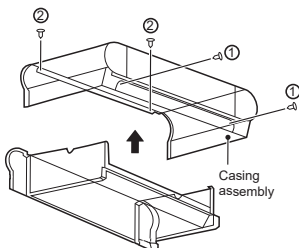

Figure 4-6 Removal of casing
- c) As shown in Figure 4-6, remove screws ①*2 and ②*2 and then the casing.